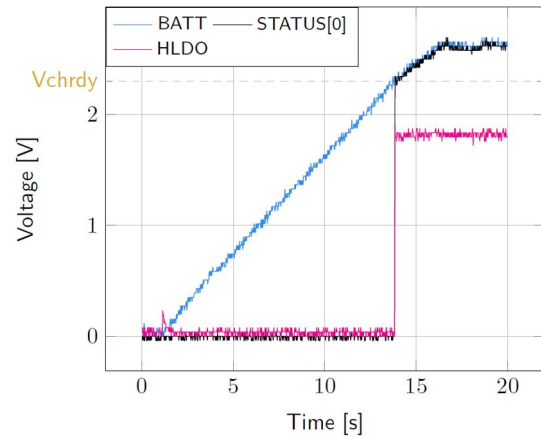

Figure 3: **STATUS[0]** and **HVOUT** evolution with **BATT**
- **BATT**: voltage rises as the power provided by the source is transferred to the storage element (see Figure 3).
- **HVOUT/LVOUT**: regulated when voltage on **BATT** first rises above V_{CHRDY} (see Figure 3).
- **STATUS[0]**: asserted when the LDOs are ready to be enabled (refer to the AEM30940 datasheet “Normal Mode” section) (see Figure 3).